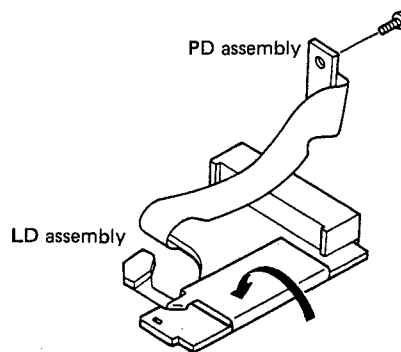

Fig. 1
1. Use glue and double-sided tape folded in the manner indicated by the arrow in Figure 1 to install the PD-head assembly.
2. With the flexible part bent as shown in Figure 1, install it on the Pick-up.